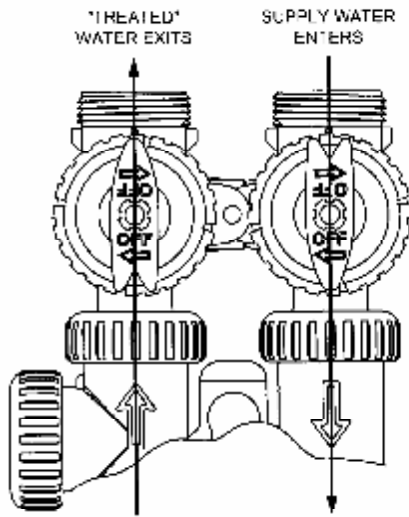

Figure 2
2. **Bypass Position:** The inlet and outlet handles point to the centre of the bypass, the control valve is isolated from the water pressure contained in the plumbing system. Untreated water is supplied to the plumbing system. (Figure 2)